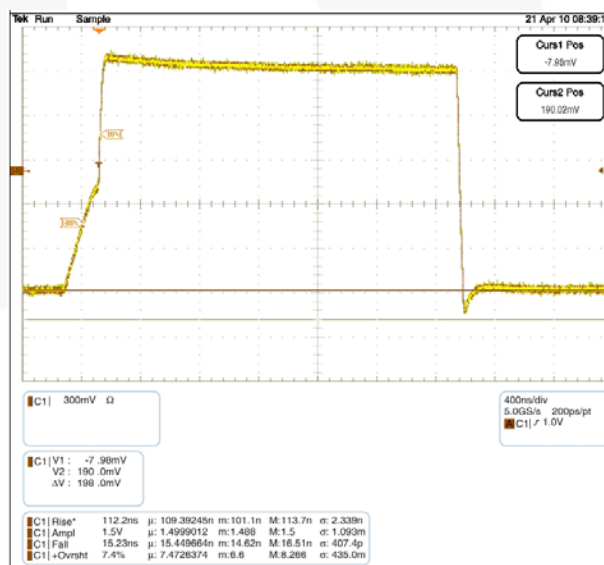

Figure 5. FXMA2102 Waveform C: 600 pF, R_{PU} : 2.2 K
is a slave on the B port, the Npassgates act as a low resistive short between both ports until either of the port's $V_{CC}/2$ thresholds are reached. After the RC time constant has reached the $V_{CC}/2$ threshold of either port, the port's edge detector triggers both dynamic drivers to drive their respective ports in the LOW-to-HIGH (LH) direction, accelerating the rising edge. The resulting rise time resembles the scope shot in Figure 5. Effectively, two distinct slew rates appear in rise time. The first slew rate (slower) is the RC time constant of the bus. The second slew rate (much faster) is the dynamic driver accelerating the edge.
The FXMA2102 dynamic drivers have enough current sourcing capability to drive a 400 pF capacitive bus. This is beneficial for instances when an I²C buffer / repeater is required. The I²C specification stipulates a maximum bus capacitance of 400 pF. If an I²C segment exceeds 400 pF, an I²C buffer / repeater is required to split the segment into two segments, each of which is less than 400 pF. Figure 5 is a scope shot of an FXMA2102 driving a lumped load of 600 pF. Notice the (30% - 70%) rise time is only 112 ns ($R_{PU} = 2.2\text{ K}$). This is well below the maximum edge rate of 300 ns. Not only does the FXMA2102 drive 400 pF, but it also provides excellent headroom below the I²C specification maximum edge rate of 300 ns.